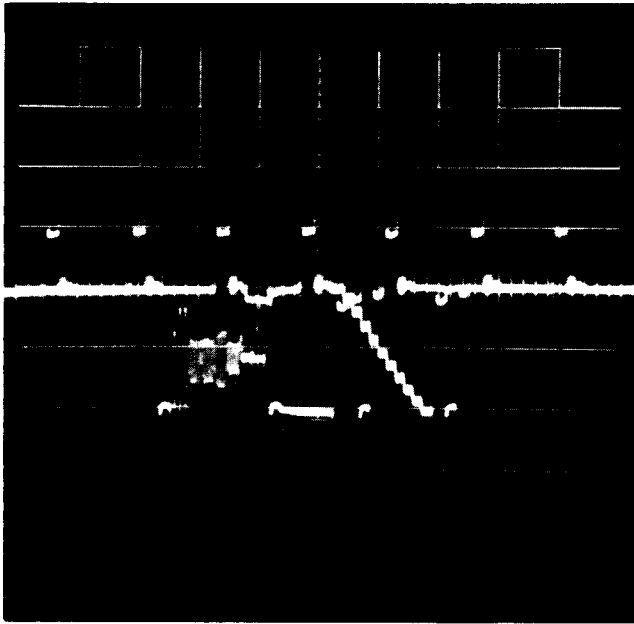

Figure 13. VITS as seen on Oscilloscope
- The waveform should be similar to that shown in Figure 13. For the oscilloscope display, each vertical sync pulse starts a new sweep. This causes line 17 and line 279 (multi-burst) to be superimposed, as are lines 18 and 280. The multi-burst signals are identical which reinforces the trace. However, lines 18 and 280 are not identical and both signals are superimposed over each other. This should present no problem, since the multi-burst is normally the signal of interest.